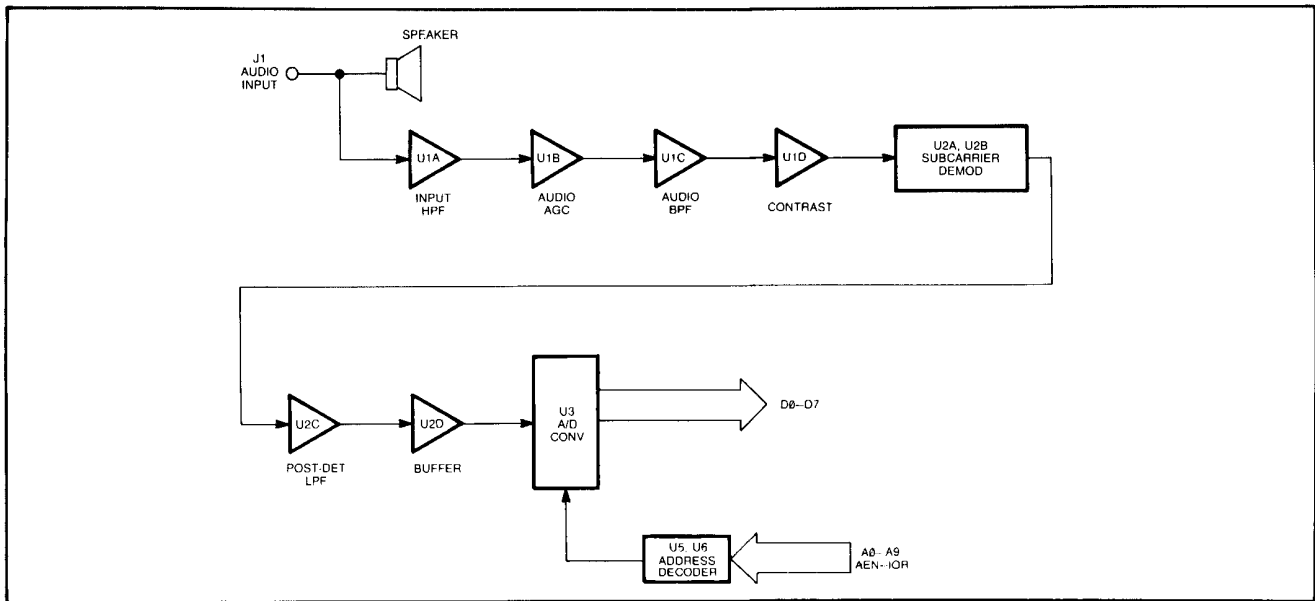

Fig 1—A block diagram of the FaxBoard.
kHz), the amplitude of which varies as a function of video intensity (brightness). To display the image on a computer's video monitor, it is necessary to both demodulate the instantaneous amplitude of the audio subcarrier, and to periodically digitize that amplitude for storage and display. The FaxBoard performs these two functions, and a few others, as shown in the block diagram of Fig 1. The schematic diagram of the board is shown in Figs 2-4; a parts list appears in Table 1.
Energy must be directed to and from the *focus* or *focal point* of a dish to realize the maximum gain of the dish (see Fig 1). There are a number of methods of placing feed elements for more than one band at the focus of a dish. The focal length (f) of a dish is related to the dish diameter (D) and physical center depth (C) by
Fig 1—Cross section of the center of a parabolic dish, showing the physical center depth (C), focal length, and location of the focus (f). A dish feed must be placed at f for optimum antenna performance, which makes multiband use of a single dish challenging.